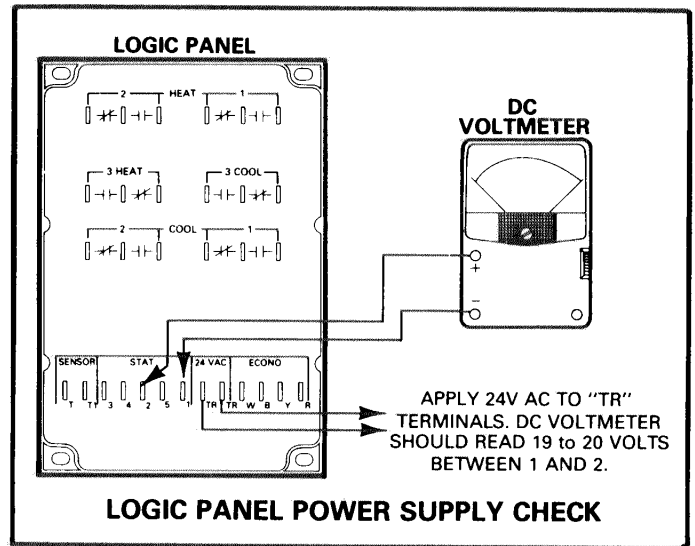

FIGURE 24
- 1 - Hook DC voltmeter to terminals 1 and 2 as shown in Figure 24.